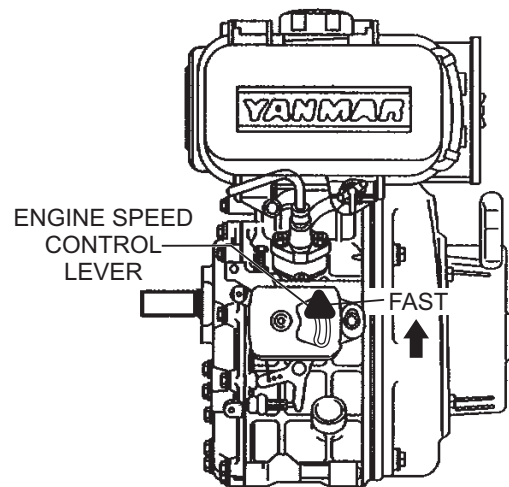

Figure 15. Speed Control Lever (Fast Position)
1. Once the engine has started, move the engine speed lever quickly to the **FAST** (Figure 15) position.